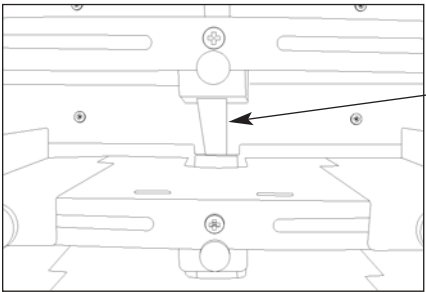

Figure 7
2. Raise retarder up using the thumb knob on the side of the machine (rotate counter-clockwise) until stock will easily slide under retarder (Figure 7, Below.)